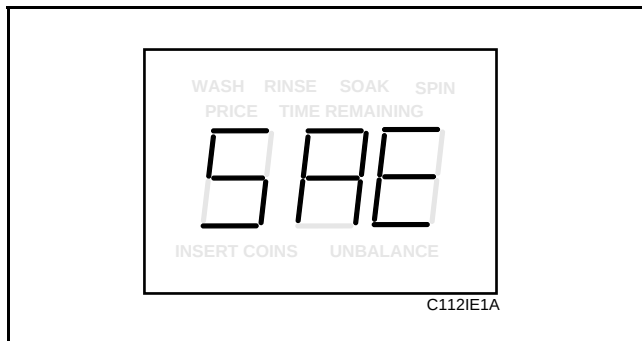

Figure 23
3. Press the DELICATES (+) pad or the COLD (-) pad to scroll through the programmable options until “SAE” appears in the VFD. See **Figure 23**.